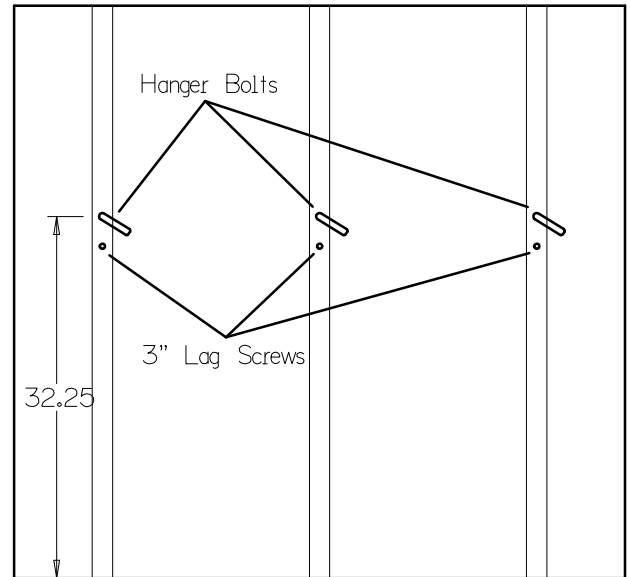

Figure 3
- > Using the provided hanger bolt driver, drive the 5.5" hanger bolts 3" deep into each of the pre-drilled 15/64" holes leaving 2.5" of thread exposed from the wall. See figures 3 and 4.
- > Using the provided T30 torx bit, drive a 3" lag screw into each of pre-drilled 1/8" holes until the head is flush with the wall. When you are finished, you're wall will look like figures 3 and 4.